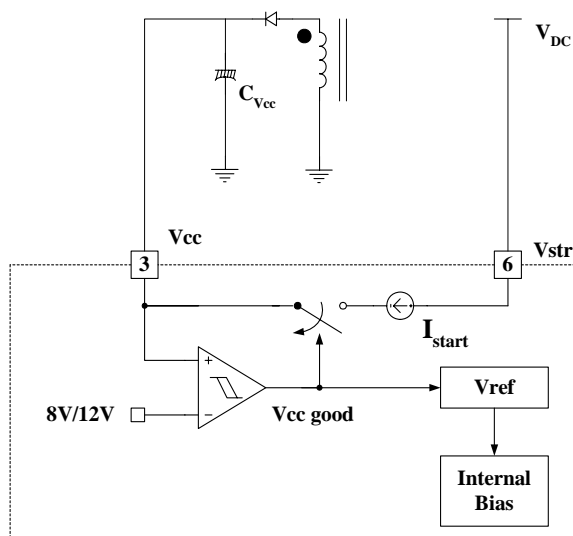

Figure 4. Internal startup circuit
**1. Startup :** In previous generations of Fairchild Power Switches (FPSTM) the Vcc pin had an external start-up resistor to the DC input voltage line. In this generation the startup resistor is replaced by an internal high voltage current source. At startup, an internal high voltage current source supplies the internal bias and charges the external capacitor (CVcc) that is connected to the Vcc pin as illustrated in Figure 4. When Vcc reaches 12V, the FSDM0565RB begins switching and the internal high voltage current source is disabled. Then, the FSDM0565RB continues its normal switching operation and the power is supplied from the auxiliary transformer winding unless Vcc goes below the stop voltage of 8V.